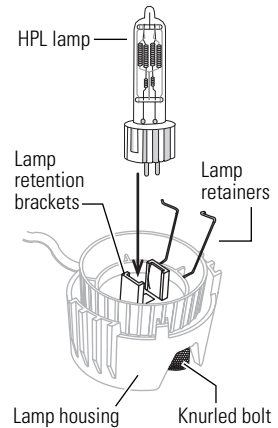

Figure 1
4. Line up the flat sides of the lamp base with the retention brackets on either side of the socket. See **Figure 1**.